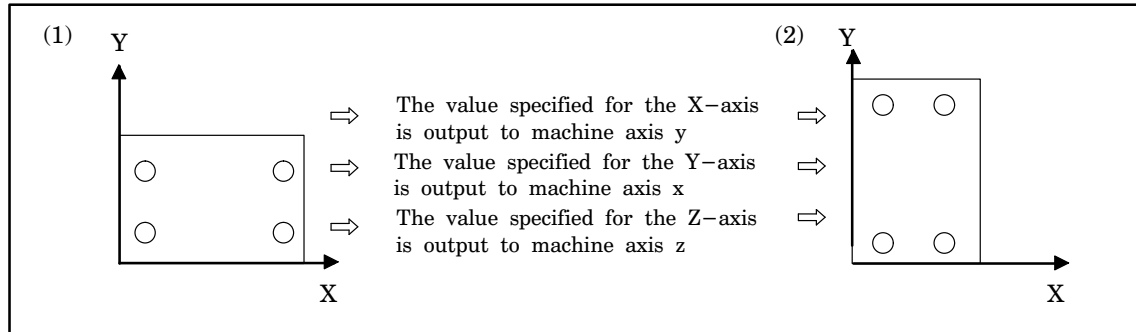

Fig. 20.1
Either settings or a signal sent from the machine can change the correspondence between the machine axes and the X, Y, and Z addresses in the move command that is input from memory, from tape, or in the MDI mode. For example, this function enables the program specified on the coordinate system shown in Fig. 20.1(1) to mount workpieces as shown in Fig. 20.1(2).